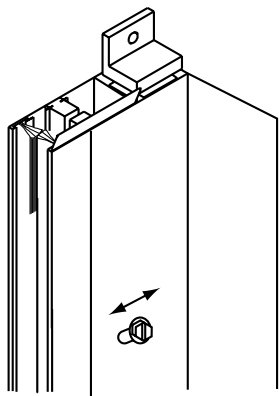

Figure 13
- ⑫ After again checking operation, re-position side channels, if necessary, to properly adjoin the head box. Note that channels that are “drilled for jamb” with the adjustable mounting angles attached are designed to help keep the channels plumb and parallel in non-squared openings. The slots in the mounting angles with the side channel attachment screw allow for an adjustment of up to 3/8". This feature allows the channel to be correctly positioned while allowing the mounting angles to be fastened tight against the jamb (see Fig. 13). For outside mount side channels, there is no surrounding jamb, so proper positioning is easier. Install all fasteners in side channels, being careful to keep channels square to the head box and parallel to each other. After checking fabric alignment and channel positioning, return MICRODOOR to full open position and re-insert the fabric into the side channels. Be sure that the slat bar at the bottom of the fabric is exactly centered. Run the MICRODOOR through several more cycles to confirm proper operation.